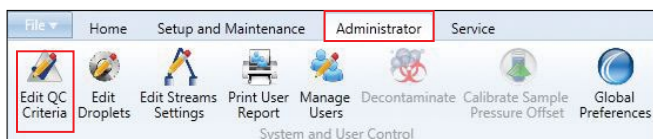

Fig. 5. ProSort Software window with Administrator > Edit QC Criteria selected.
2. Select **Administrator** > **Edit QC Criteria** (Figure 5).